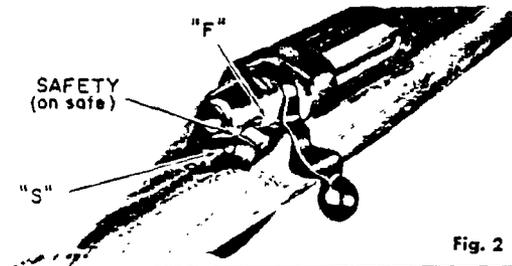

Fig. 2
**SAFETY (Fig.2)** — Close bolt and rotate safety to rear stop position marked "S" on receiver. Side lever type safety is located at right rear of receiver. With safety in rear stop (ON SAFE) position, trigger cannot be pulled to fire rifle and bolt handle cannot be raised to unlock and open action.